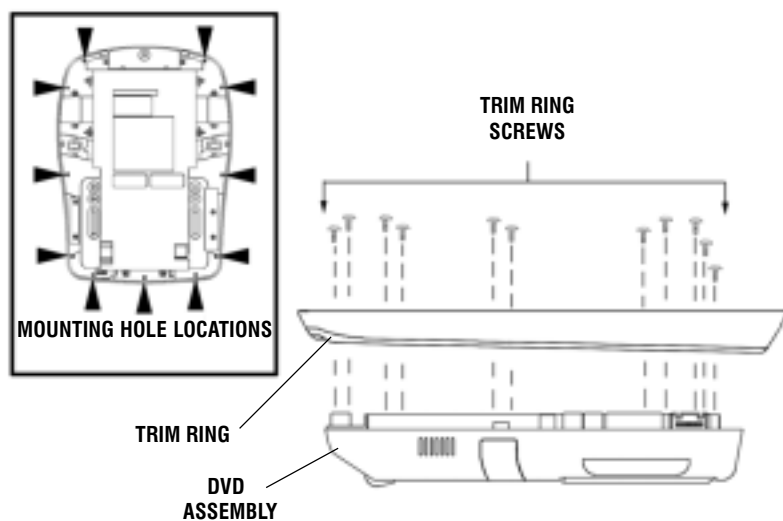

FIGURE 36
1. ATTACH THE DVD ASSEMBLY TO THE TRIM RING USING A SCREWDRIVER AND THE 11 TRIM RING SCREWS. (SEE FIGURE 36)